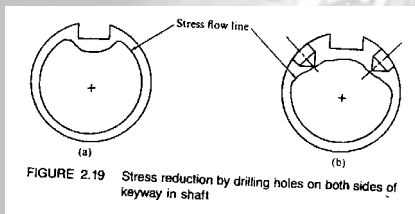

FIGURE 2.19 Stress reduction by drilling holes on both sides of keyway in shaft
- Drill holes on both sides of key way (Fig. 2.19)
Stress concentration Fig. 2.19)